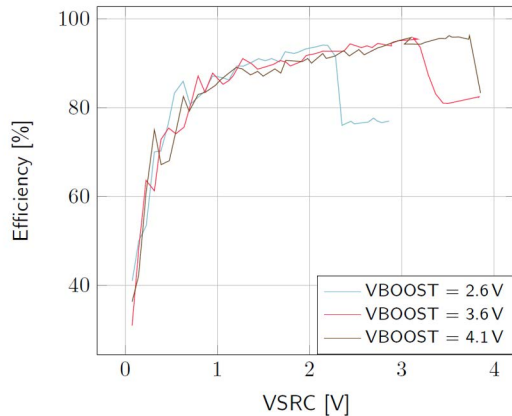

Figure 8: Boost efficiency for $ISRC = 1mA$
- **VBOOST**: Measure the current and the voltage. Repeat the measurement many times to be sure to capture the current peaks. Figure 8 has been obtained by averaging over 100 measurements configured with a 100 ms integration time.